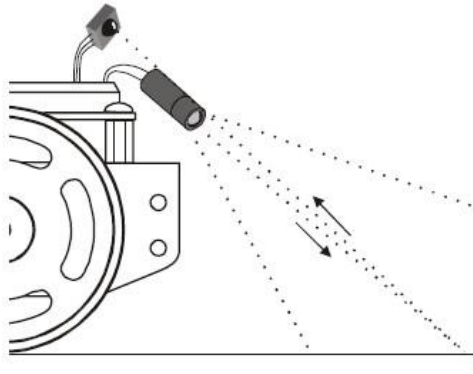

Figure 9. Infrared signal
The infrared (IR) LED emits infrared light and the reflected IR receiver reacts to light and transmits the signal as seen on Figure 9. The Boe-Bot IR works on the same principle as the TV remote.